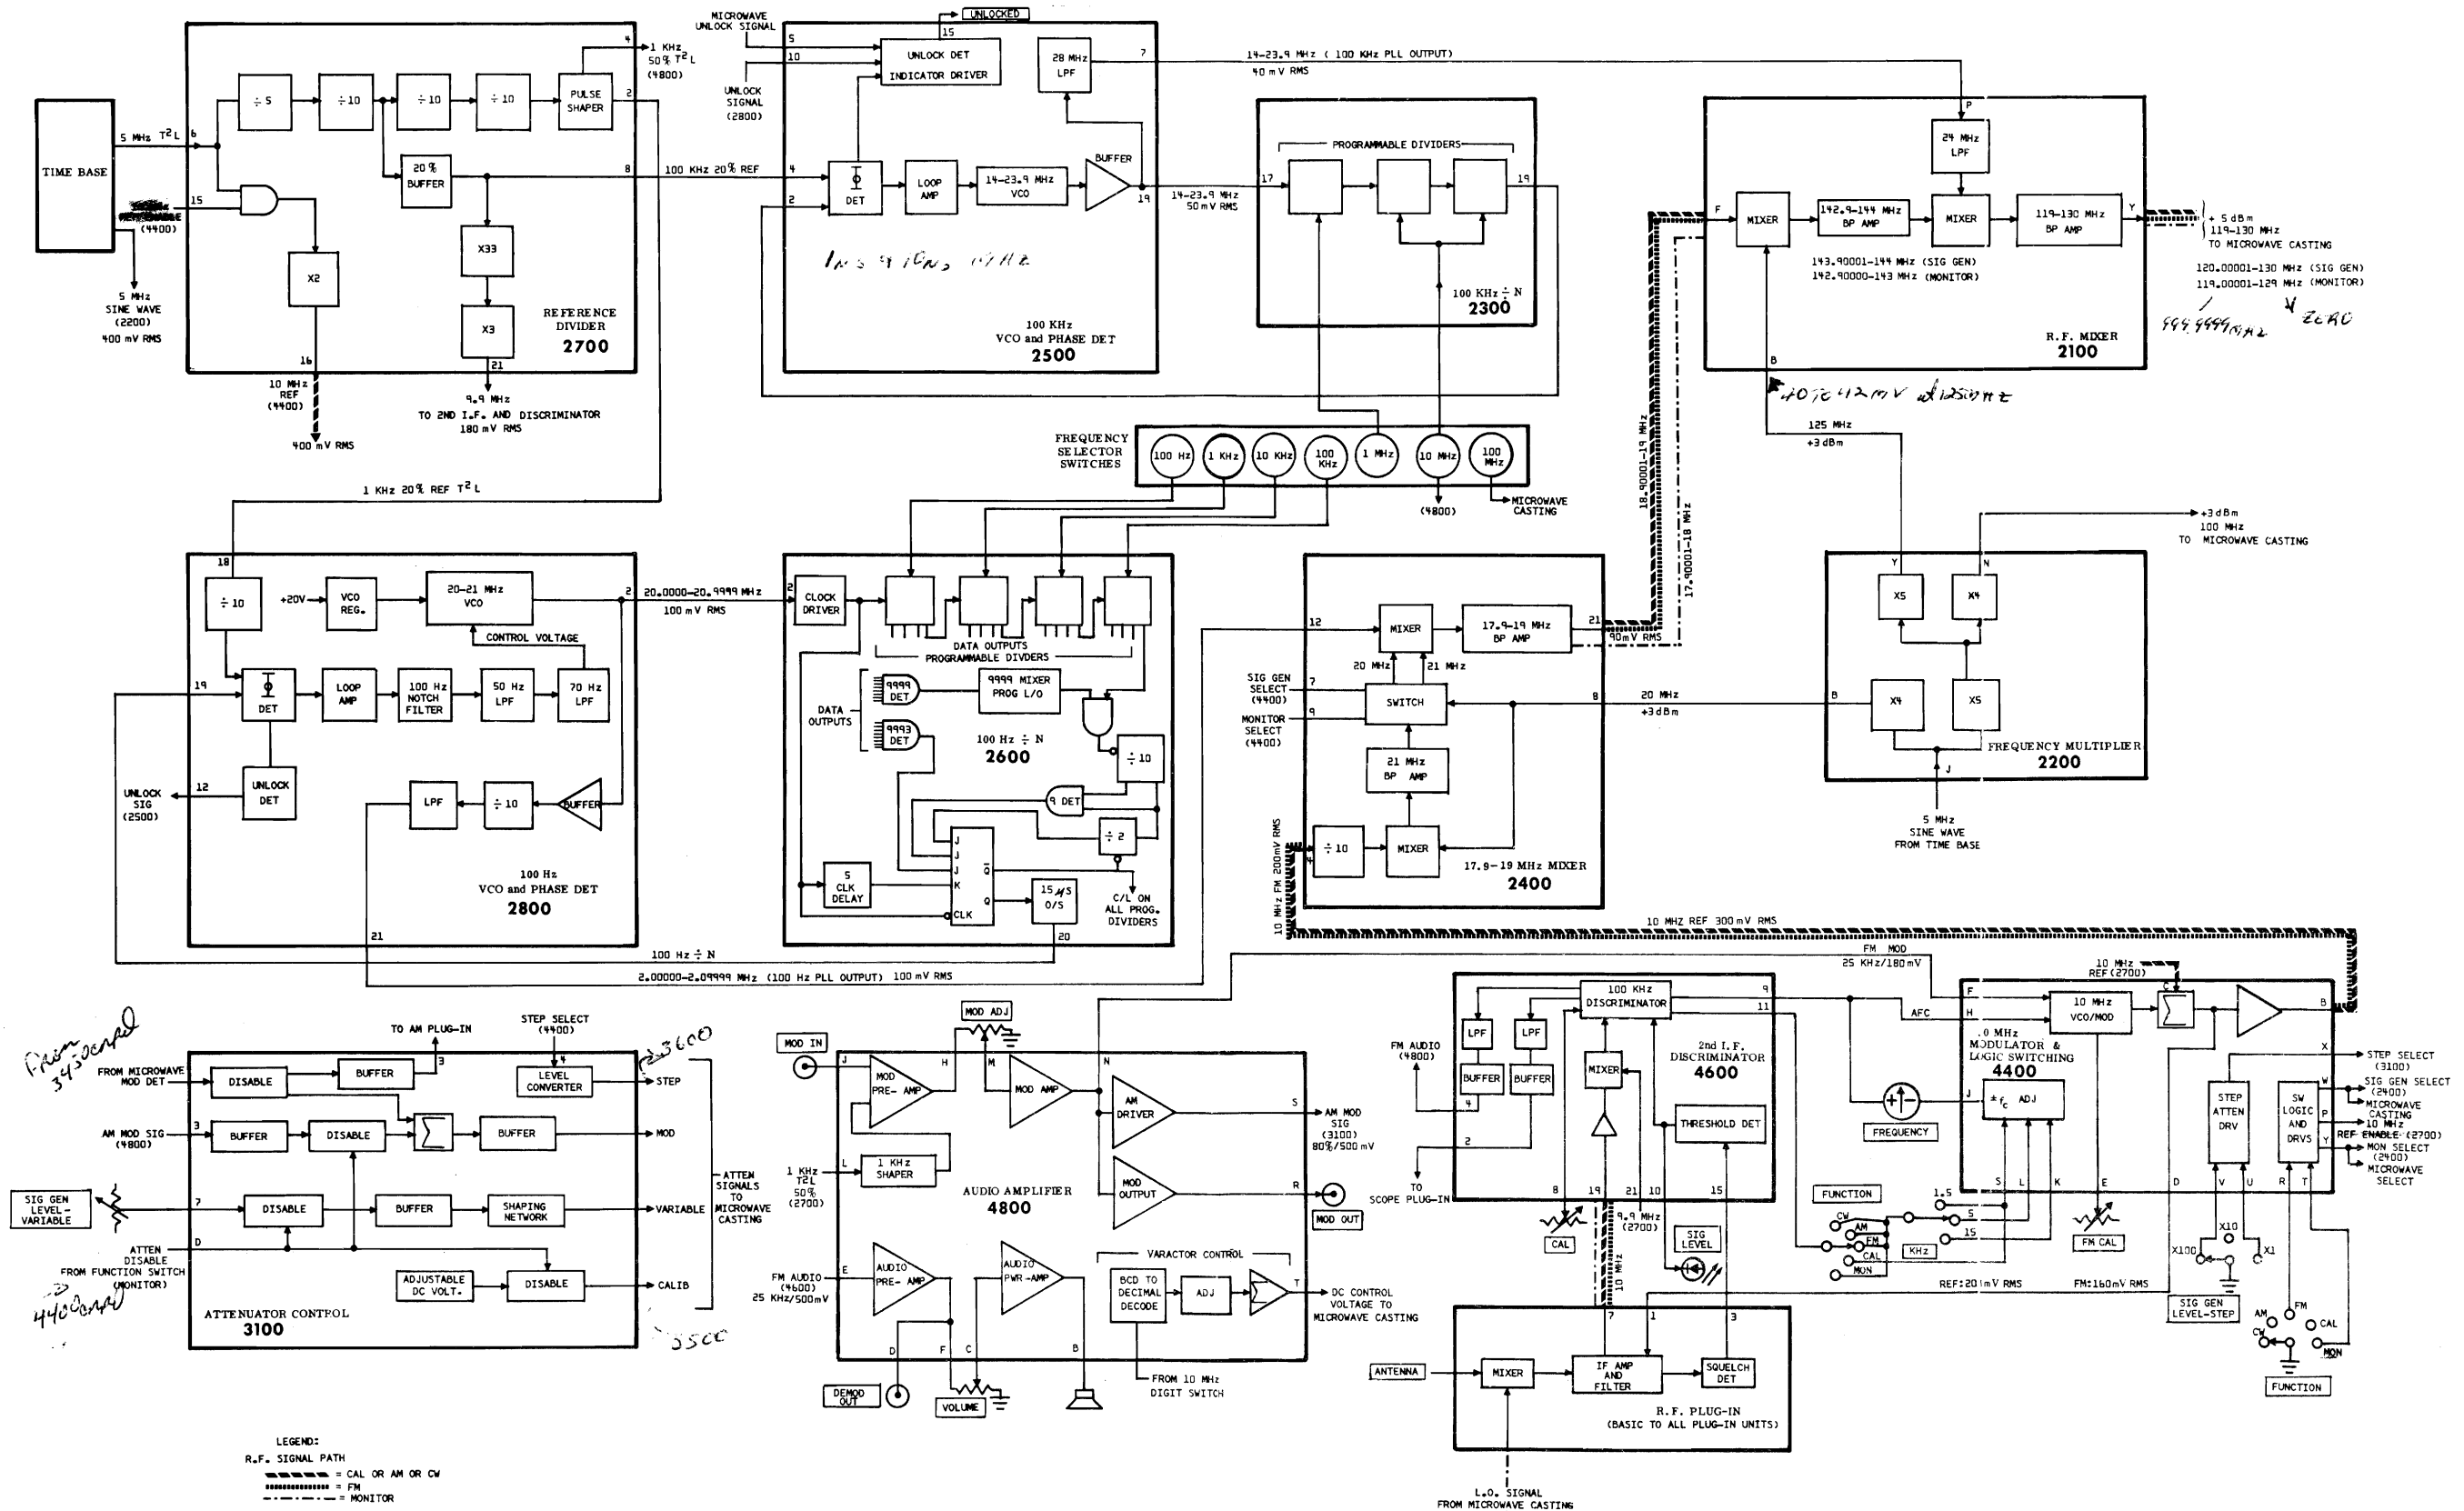

Figure 4-2. CE-4 Overall Block Diagram, Main Frame
5.18 Check the instrument in both Monitor and Signal Generator modes to determine whether the trouble is confined to either mode. Also check to see whether it is localized in either CW, AM or FM. If another CE-4 is available, suspected boards may be substituted. In shooting trouble, use the block diagrams, Figures 4-2,